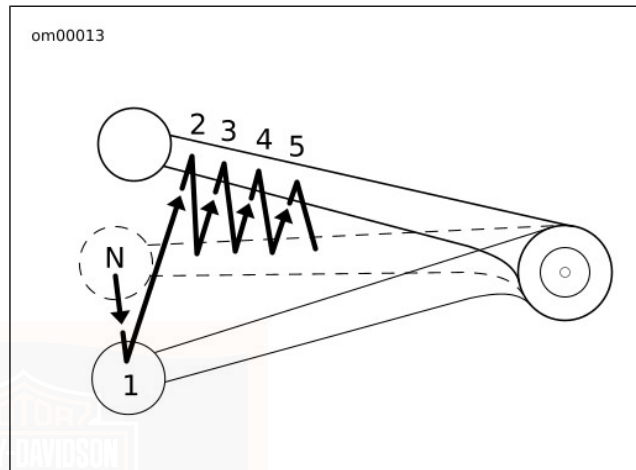

Figure 35. Shifting Sequence: Upshift
3. See Figure 35. Lift the gear shift lever up to the end of its travel and release.